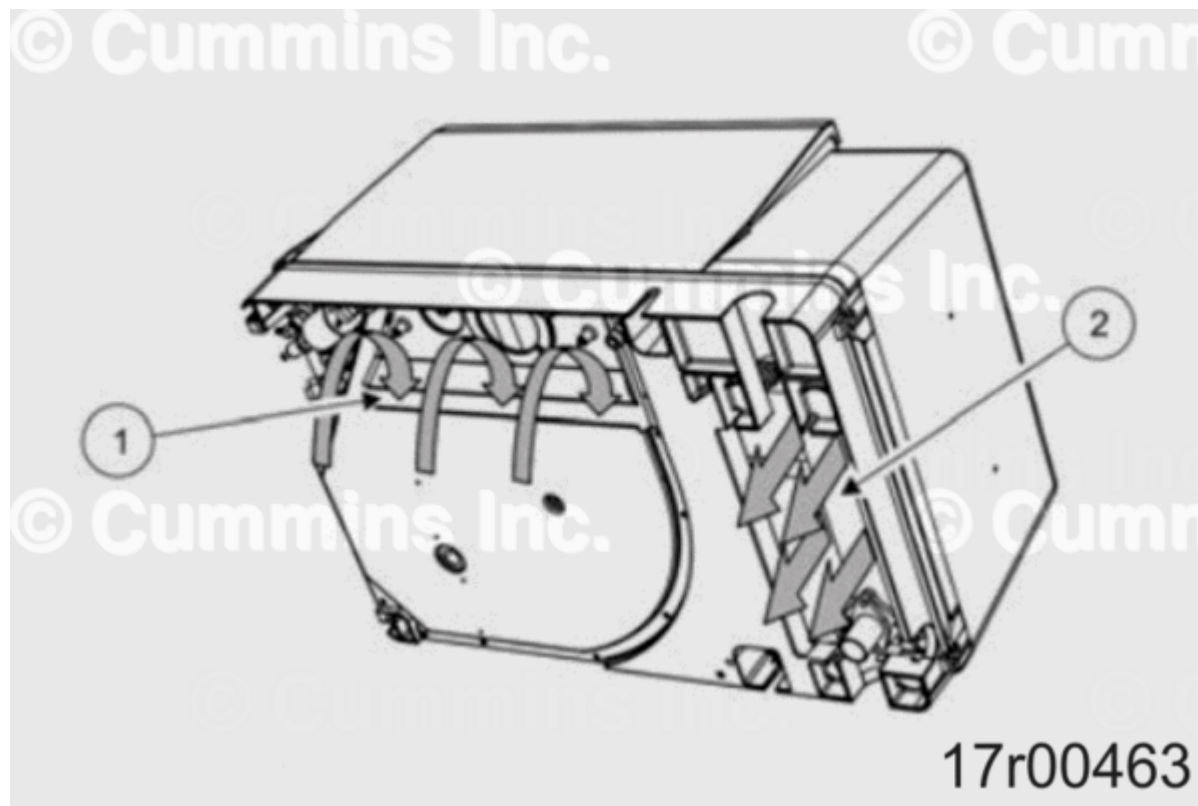

Figure 1, HGJAx Air In and Air Out
- b. Understanding and visualizing air flow for a generator set is key to minimizing hot air recirculation. HGJAx generator sets draw cooling air and discharge hot air out of the bottom, as depicted below in Figure 1.